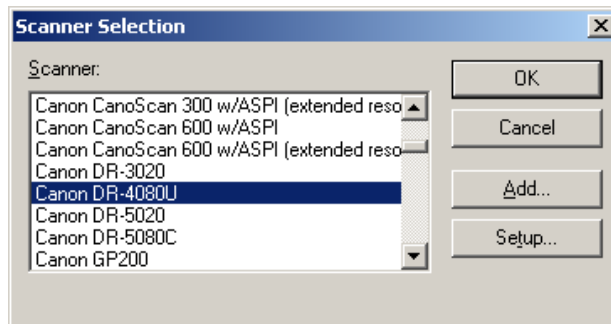

Figure 48. Pixel Translations Pix View Scanner Select Dialog Box (ISIS)
- 4 Select the scanner as shown in Figure 48.